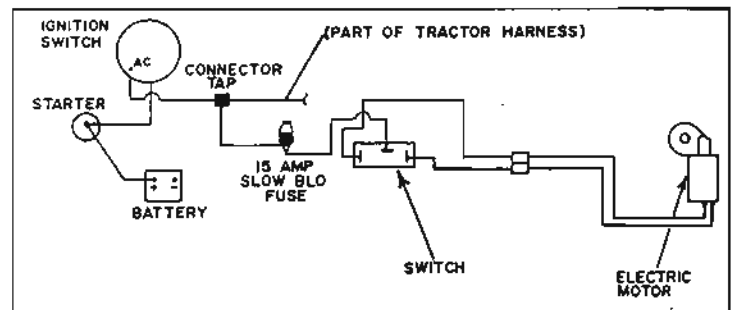

FIGURE 18
- g) Solder one 18" wire to the side terminal of fuse holder and the other 18" wire to the bottom terminal (see figure 18).
- i) Connect one wire from fuse holder to middle terminal of control switch, the other 18" wire to the tractor ignition switch (see figure 18).